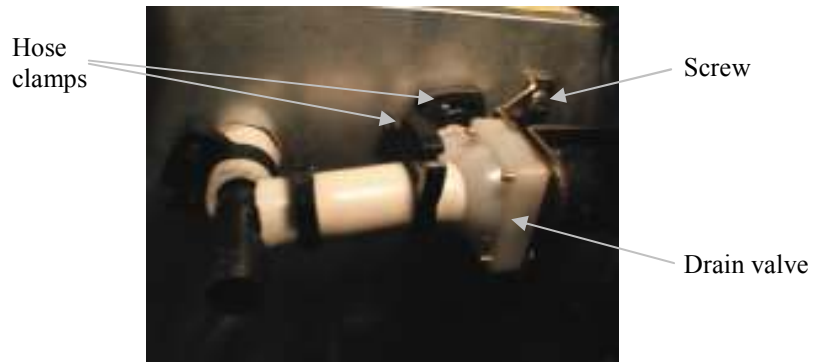

Figure 4.1
5. Loosen the hose clamps on each side of the drain valve (see figure 4.1).
6. Remove the two screws securing the drain valve (see figure 4.1).